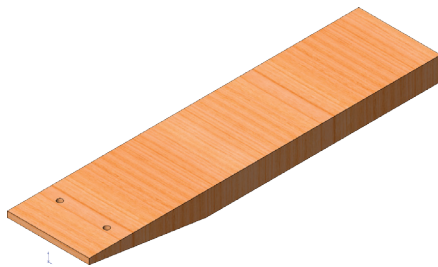
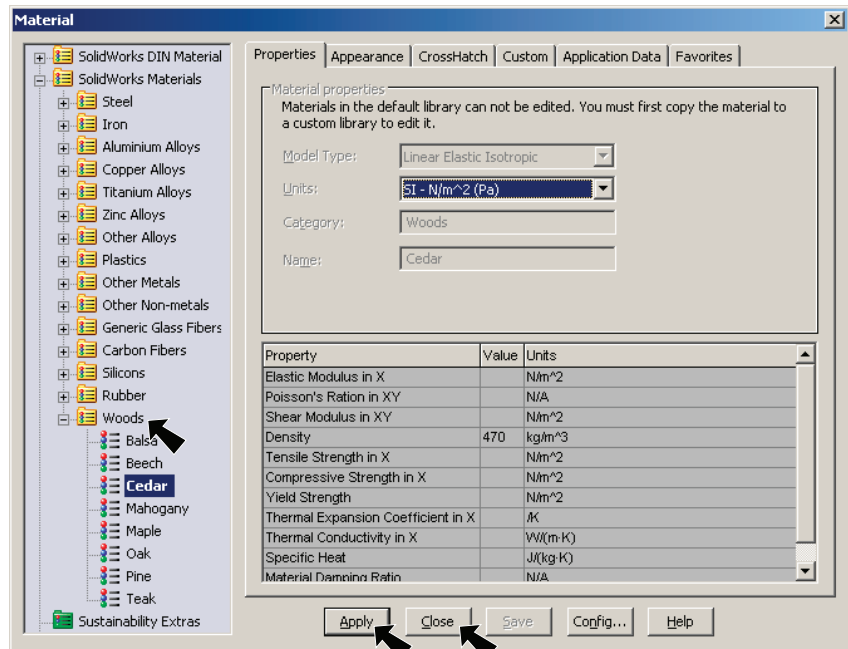

Fig. 14
Fig. 13
Step 2. **Expand Woods** (click the +) in the material tree and select **Cedar**, **Fig. 13**. Click **Apply** and **Close**, **Fig. 14**.